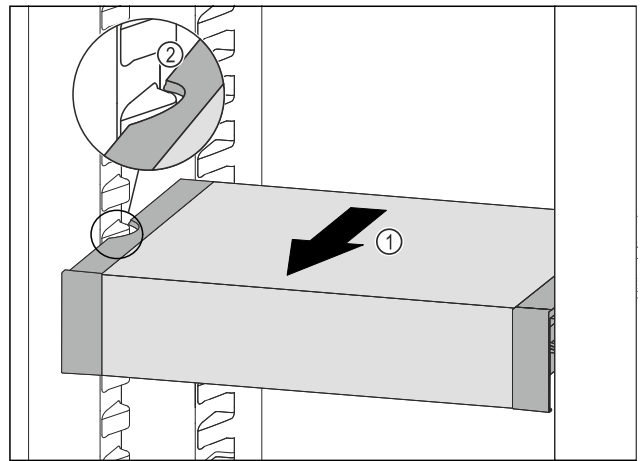

Fig. 179
- Pull VarioSafe forwards Fig. 179 (1) until the recesses in the side of the VarioSafe are at the level of the support rib in the fridge section. Fig. 179 (2)